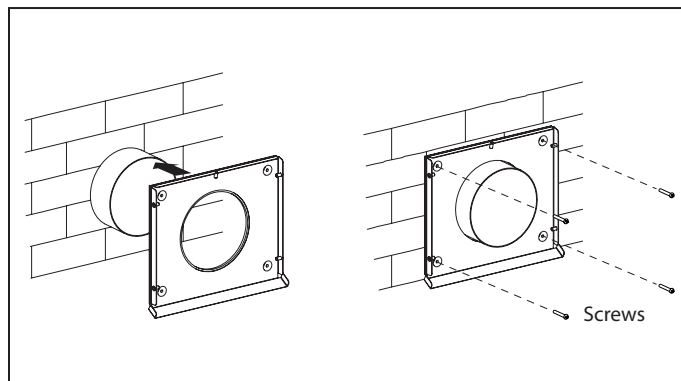

Fig. 13b.
- Fig. 13b – VENTO Ergo A25-1 S Pro model. Fix the back part of the outer ventilation hood to the wall with the screws 4x40 from the delivery set.